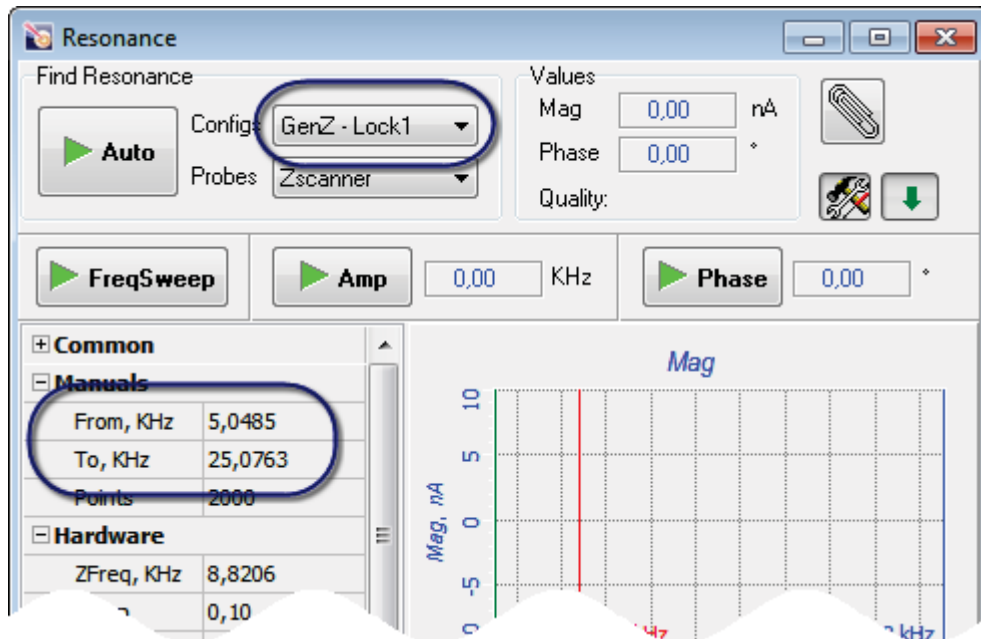

Fig. 7-45. **Resonance** window
- b) In the **Configs** drop-down list select **GenZ-Lock1** (Fig. 7-45). This option applies AC voltage from a special oscillator to the Z-section of the scanner.
3. Set the operating frequency of the generator at one of peaks in the frequency relation profile by moving the red marker to the desired position. Frequency corresponding to the current position of the marker is shown in the **ZFreq** field of the **Hardware** group (Fig. 7-45).
4. Adjust height of the desired peak to be in the range 2÷5 nA. This can be achieved by varying output voltage of the generator (**ZAmp** parameter) (see Fig. 7-45) or gain of the lock-in detector (**LockGain** parameter).